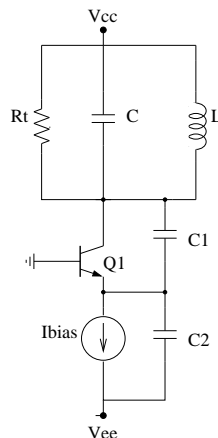

Figure 4: Simple Colpitts Oscillator
The Colpitts oscillator translates to this block diagram very well. Looking at Figure 4, we see a simplified version of the Colpitts that you’ll be building. You might notice that the transistor’s base is grounded, hinting that we probably have a common base amplifier. Recalling that the small-signal gain for this amplifier is $A_v = g_m R_{load}$ (note that this gain is positive), it is easy to see how this could make up the gain block (A), of the block diagram. The feedback (f), in this case, is the capacitive divider formed by C1 and C2. Recalling a bit about capacitive dividers, we remember that $f = \frac{C_1}{C_1 + C_2}$. In order for our condition for oscillation to be satisfied, we must set $A = 1/f$, or $g_m R_{load} \frac{C_1}{C_1 + C_2} = 1$. Also, since the phase must exactly equal zero, this oscillation can only occur at the resonant frequency of the LC tank, or at $\omega = \frac{1}{\sqrt{LC}}$.